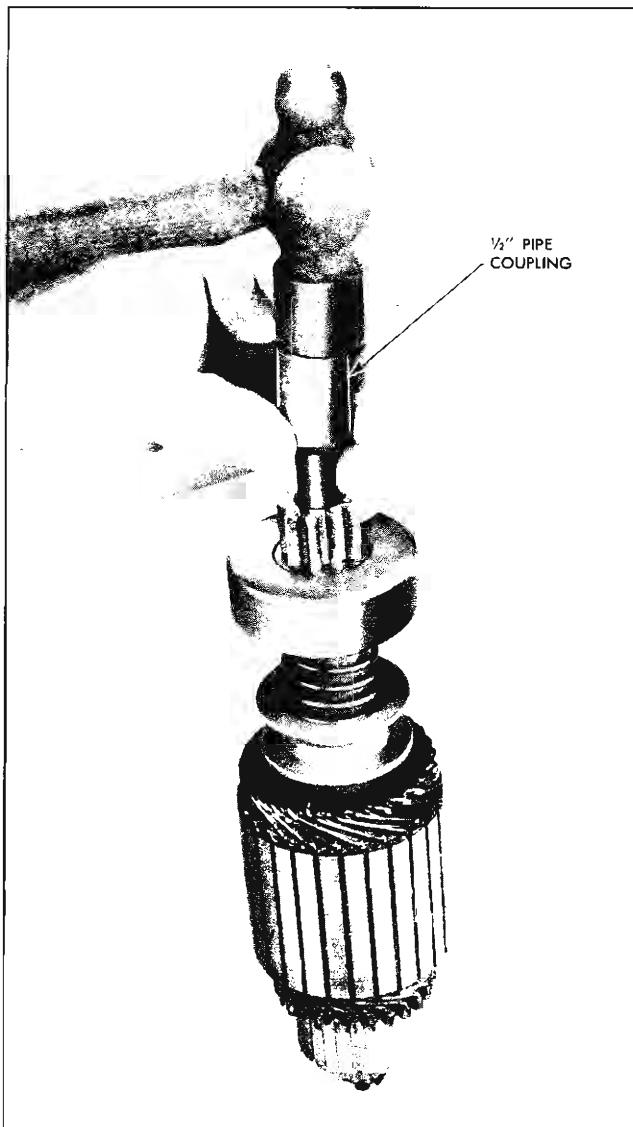

Fig. 11-7 Driving Retainer Off Snap Ring
suitable size can be used if available) onto shaft so end of coupling or cylinder butts against edge of retainer (Fig. 11-7). Tap end of coupling with hammer, driving retainer towards armature and off snap ring.
b. Slide clutch assembly onto armature shaft with pinion outward (Fig. 11-7).
c. Slide retainer onto shaft with cupped surface facing end of the shaft (Fig. 11-7).